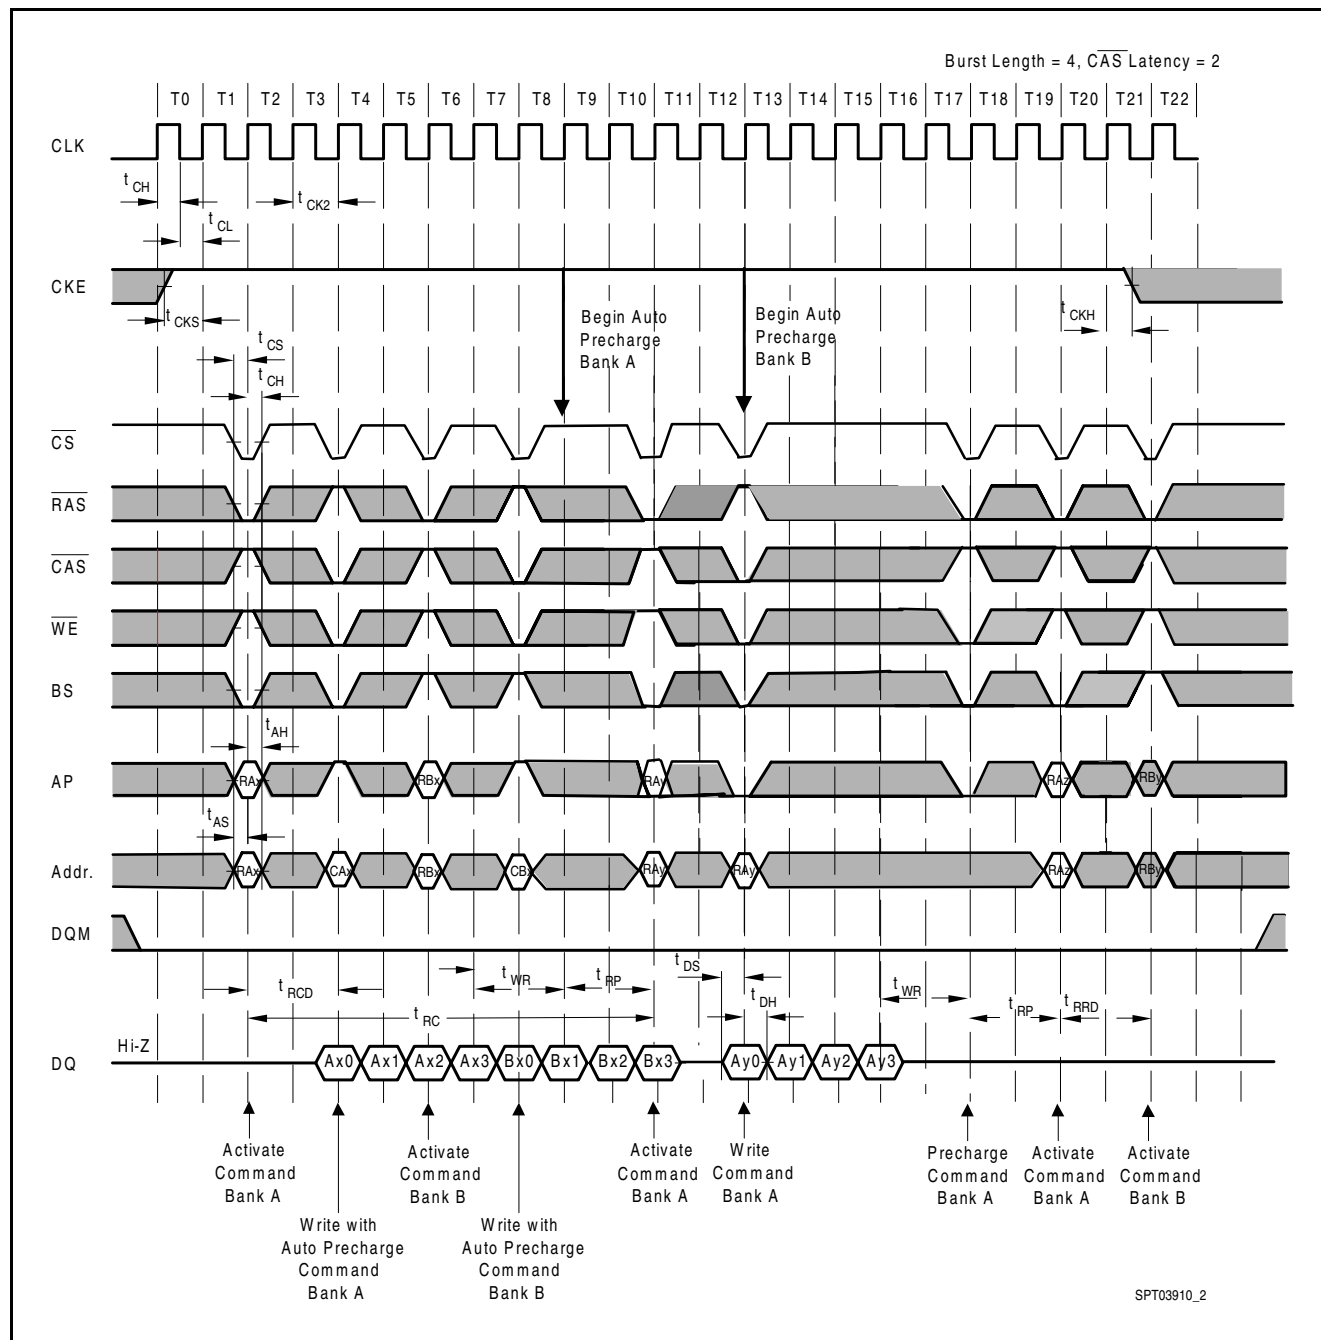

Figure 16 AC Parameters for a Write Timing
- **Figure 16** AC Parameters for a Write Timing